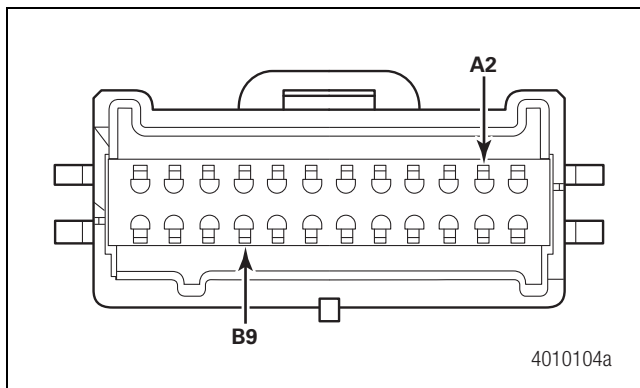

Figure 2.20
1. Disconnect the LDW connector and measure from terminal A2 to the ground terminal B9 on the vehicle harness side for short to 12 volts. Figure 2.20.